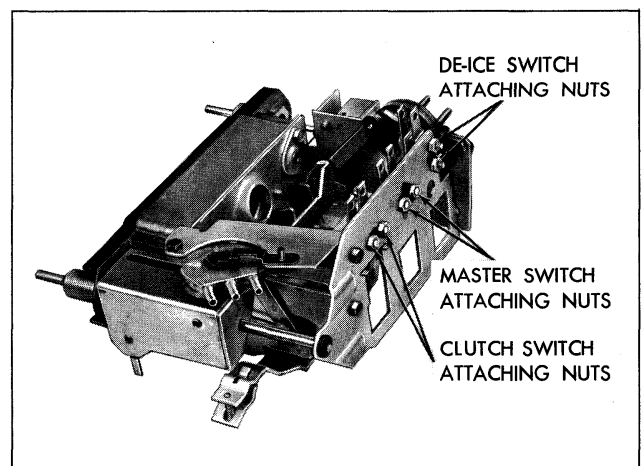

Fig. 4-10 Control Panel Assembly - Rear
1. Remove two clutch control switch to panel assembly attaching nuts (Fig. 4-10).
1. Remove two master switch attaching screws (Fig. 4-10).
1. Remove two "de-ice" switch attaching screws (Fig. 4-10).
2. Remove switch to panel assembly screw and air vent filter pad retaining clip (Fig. 4-10).